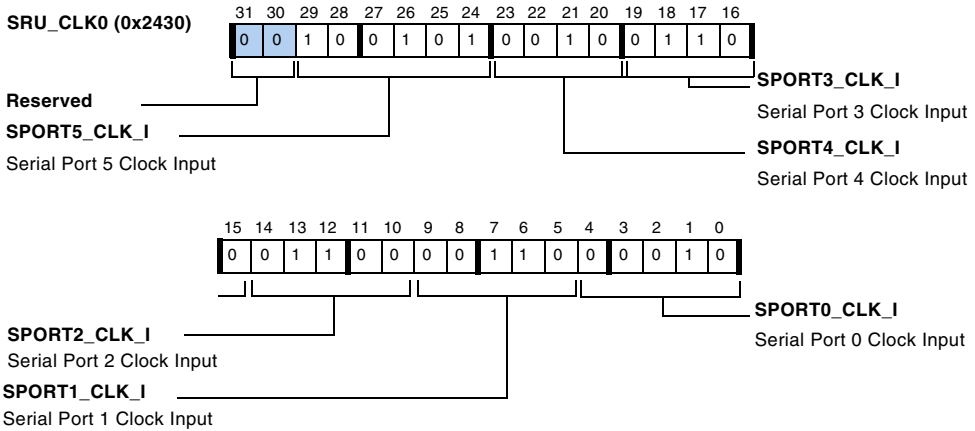

Figure A-34. SRU\_CLK0 Register
- SRU\_CLK0, described in Figure A-34